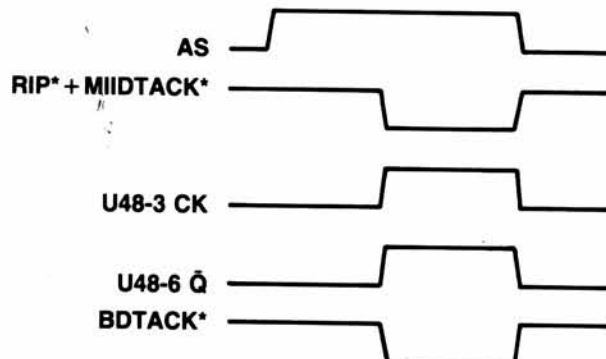

Figure 2. Onboard BDTACK Generation
Address Strobe (AS) sets the flip-flop and negates BDTACK* for the next bus cycle. **Figure 2** shows the timing relationships for onboard BDTACK* generation.